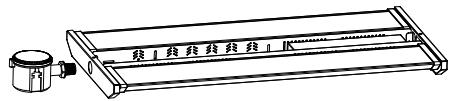

Figure 10
Step2. Knock out the side cover, mount the sensor on the side, connect the wires according to the sensor instruction; (Figure 10)